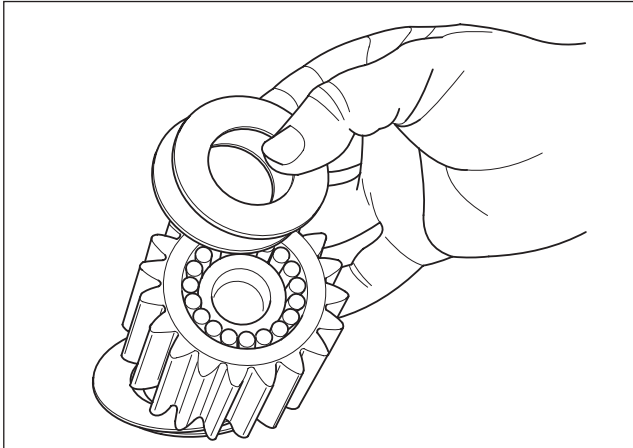

Fig. 2.20
6. Replace damaged parts. Grease the rollers of the planets gears and assemble them in the gears, with the spacer sleeve. Fig. 2.20